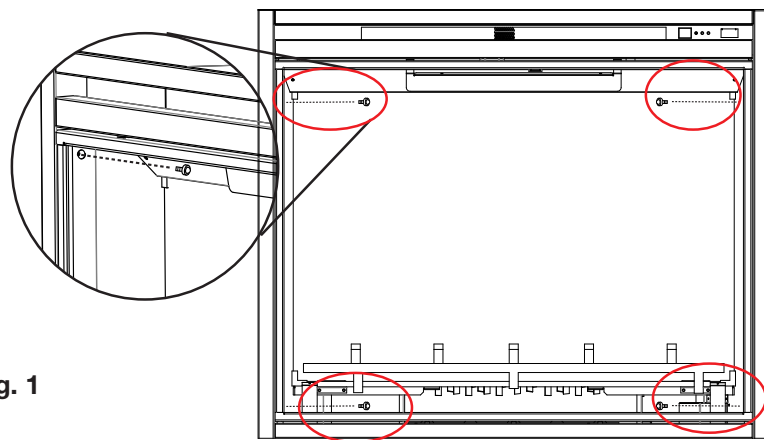

Fig. 2
- D.** Level the appliance and use the 4 screws (supplied) to secure the appliance to the wall studs (**Fig. 2**).
- C. Set the appliance down and into place and remove the cloth (**Fig. 2**).